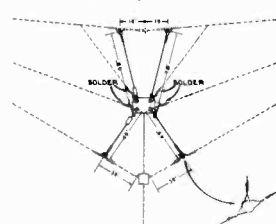

Figure 3—Auxiliary Antenna
- (13) **Auxiliary Antenna, Stock No. 9689.**—To attach the Auxiliary Antenna wires, which are provided in a separate package containing four coils with insulators and choke or loading coils assembled, proceed as follows:
- (a) Locate the points on the top and bottom main antenna wires to which the auxiliary wires are to be attached. These points are 18 inches from the corner insulator for the top wires and 30 inches from the transformer on bottom wires. (See Figure 3.)